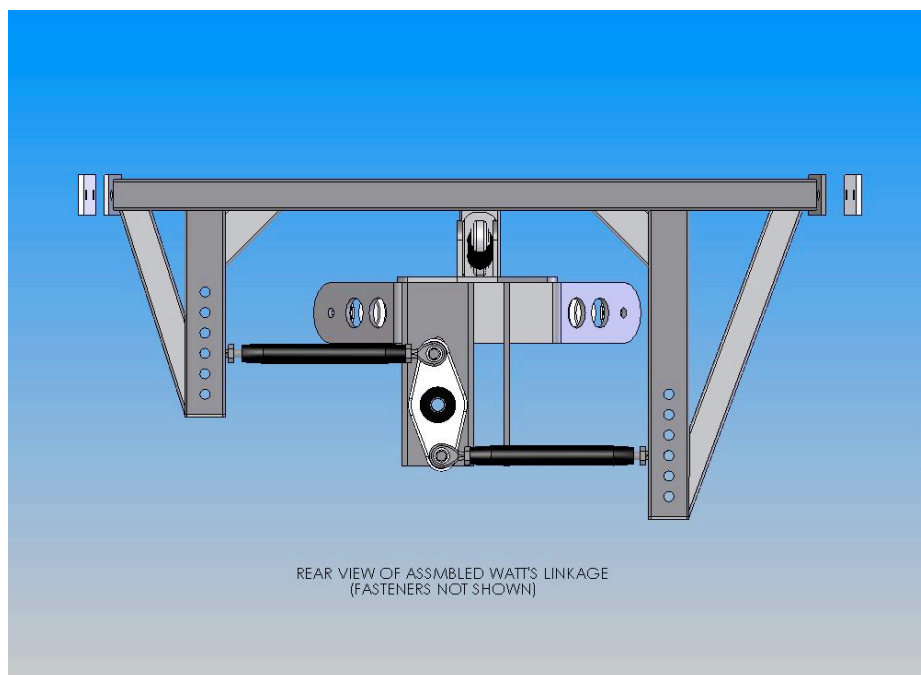

Figure 5.
- 11) Place the Watt's chassis mount up into the frame behind the rear end and slide it forward until the angled ends mate with the frame members. Clamp in place at these points with vice clamps. Install the two Watt's links into the chassis mount with the supplied hardware so that they are in the holes that make them as parallel to the ground as possible. Viewing the suspension from the bottom, adjust the chassis mount so that the Watt's links are as perpendicular to the chassis as possible and the chassis mount and links are as parallel as possible. These links do not have to be perfectly parallel. This is what the heim joints are for. The most important thing is to get the chassis mount in the chassis as square as possible. See figure 5.